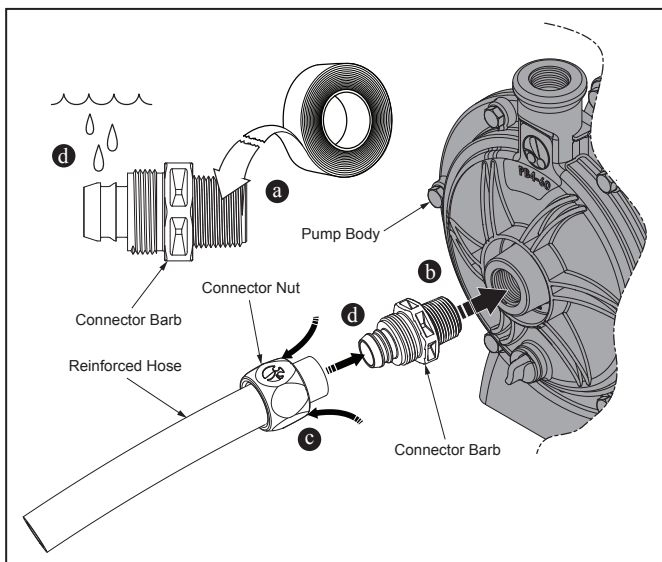

Figure 5. Prep and install Quick Connect barb and connector nut
1. Mount the pump using two (2) concrete expansion anchors to ensure stability.
2. Apply four (4) to six (6) wraps of Teflon® tape to the tapered thread of the connector barb. See Figure 5 (a).
3. Thread and tighten the tapered thread of the connector barb into the pump port on the pump body. See Figure 5 (b).
5. Slide connector nut onto the trimmed end of the hose with threaded end toward the cut end of the hose. See Figure 5 (c).
6. Apply water to connector barb to help hose slide over barbs. Push trimmed edge of hose fully onto the connector barb. See Figure 5 (d).